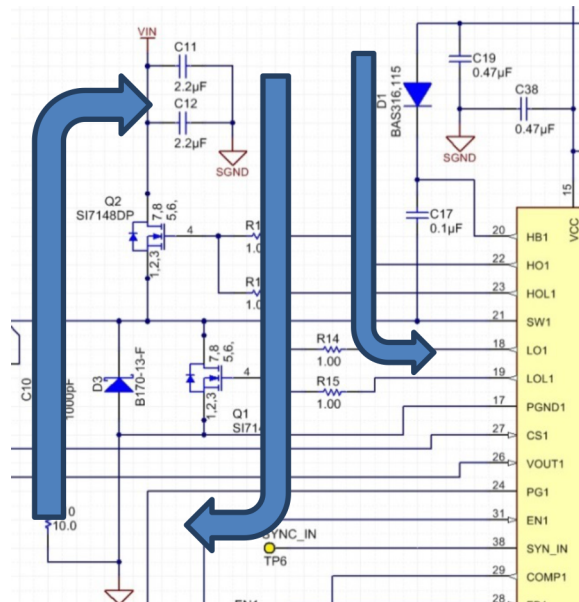
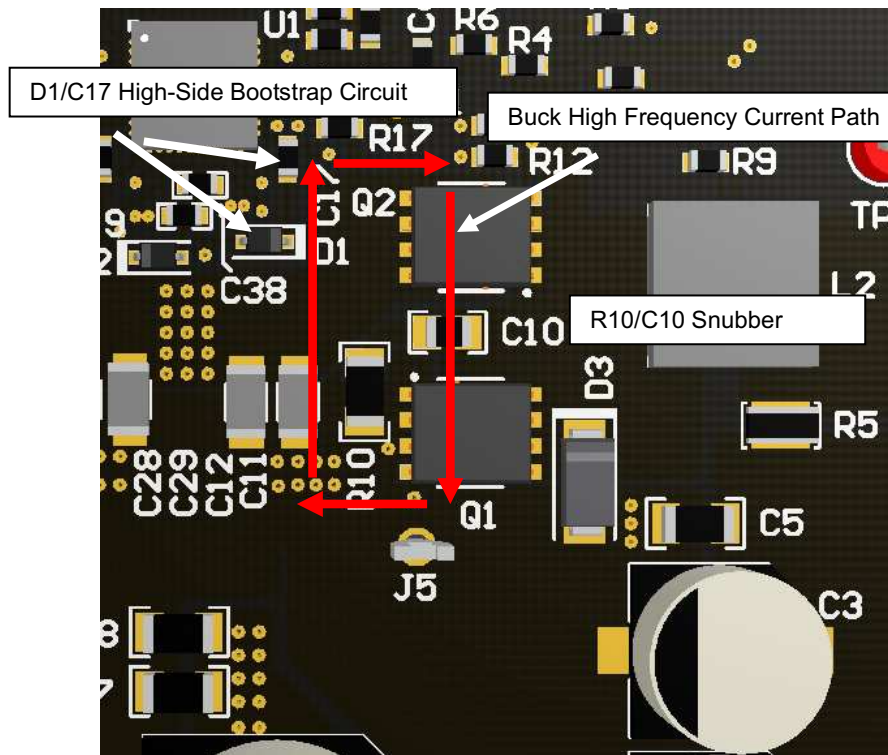

Figure 42. Synchronous Buck Power Flow
Figure 43. Synchronous Buck High Frequency Current Path
- Locate the gate drive components (D1 and C17) together and near the controller IC; refer to Figure 42. Be aware that peak gate drive currents can be as high as 4 A. Average current up to 150 mA can flow from the VCC pin to the VCC capacitor through the bootstrap diode to the bootstrap capacitor. Size the traces accordingly.
- Figure 42 shows the schematic of the high frequency loops of one synchronous buck channel. The current flows through Q1 and Q2, through the power ground plane and back to VIN through the ceramic capacitors C11 and C12. This loop must be as small as possible to minimize EMI. Refer to Figure 43 For the recommended PCB layout.